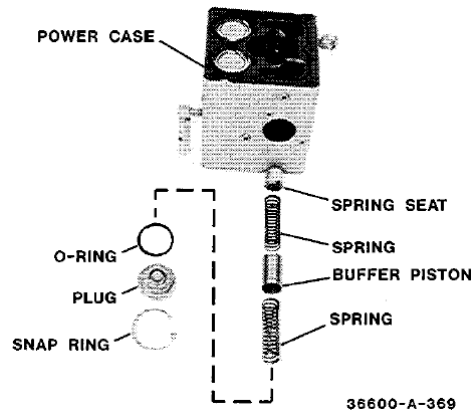

Figure 5-35. Compensation System
16. Put new O-ring on plug (Figure 5-35) and insert spring and plug into compensation cylinder in power case. Secure plug with snap ring.